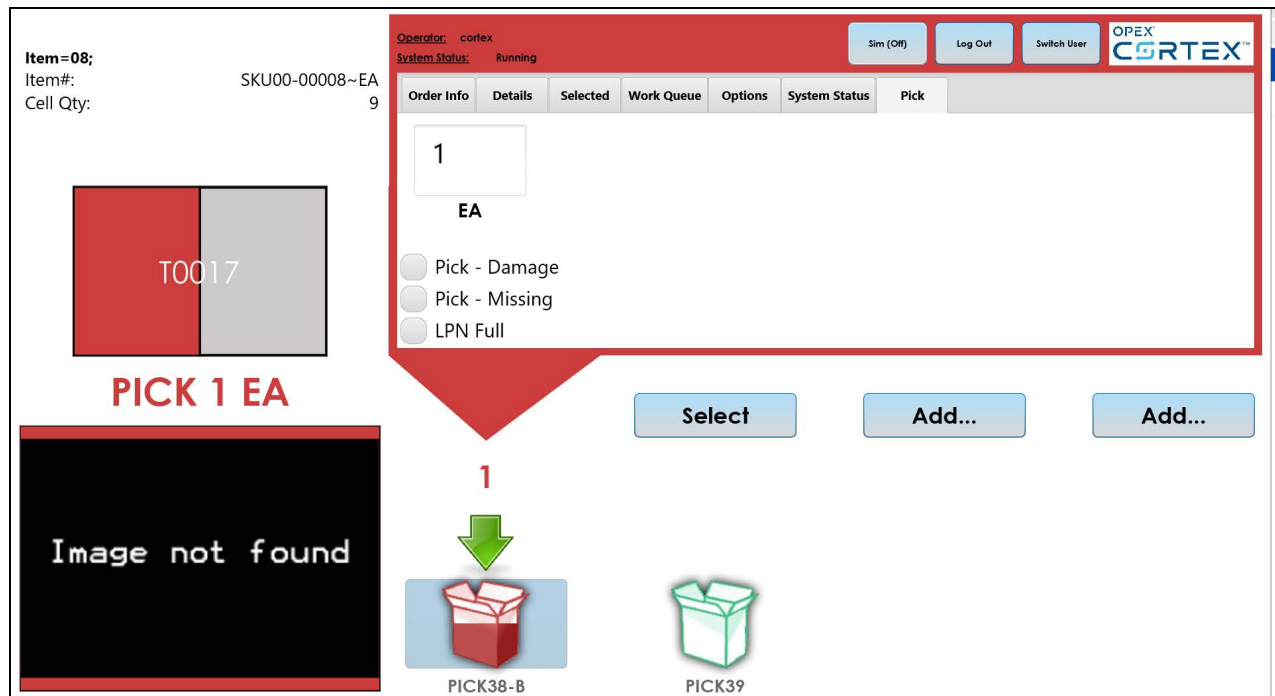

Figure 3-12: Manual table mode LPN
**LPN Full** functions similarly in manual table mode, with the exception of adding unknown containers or routing containers. The process of adding containers to a location remains the same. After the operator presses **Confirm**, the operator needs to place the new LPN container in the correct manual table mode location. The exception view only exists in auto mode. The following image shows the new LPN after the operator presses **Confirm** (Figure 3-12).